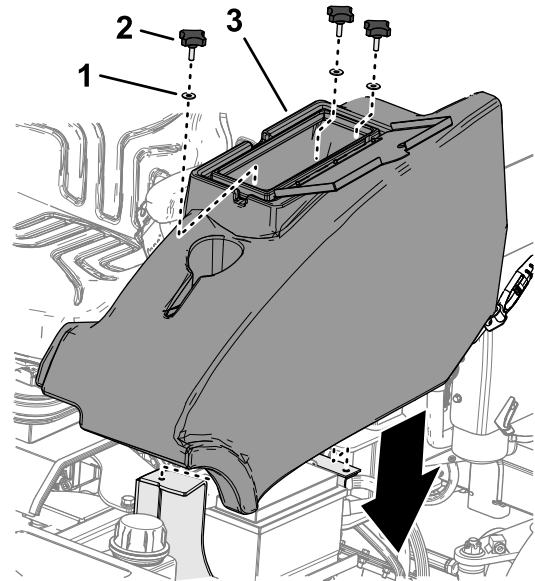

Figure 48
- Assemble the storage compartment to the machine with the 3 knobs and 3 washers (Figure 48)